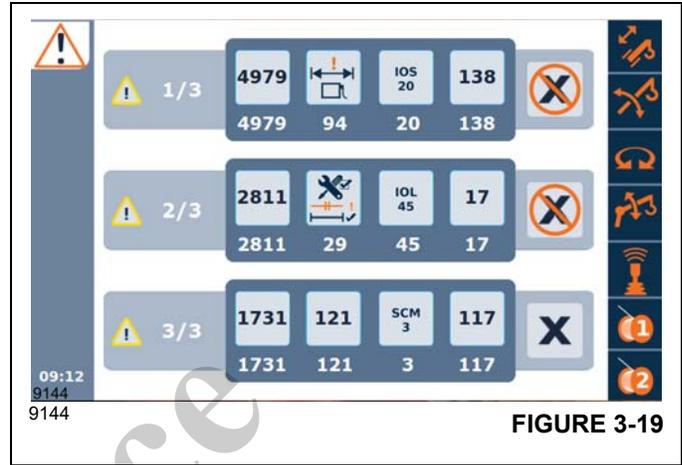
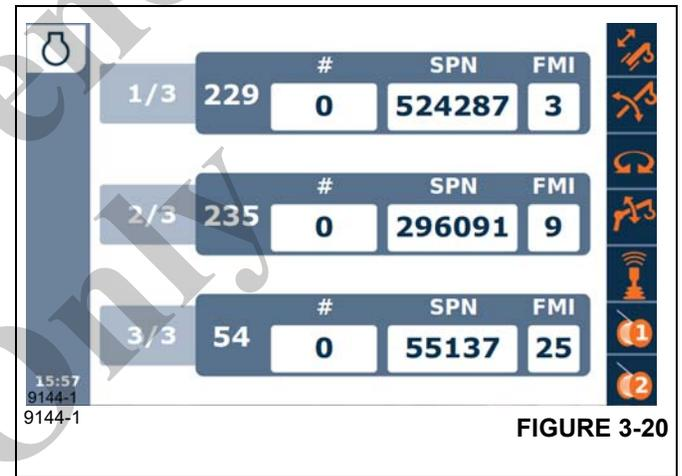

FIGURE 3-19
FIGURE 3-20
1. Open the fault list screen (Figure 3-19) or the engine faults screen (Figure 3-20) and highlight the fault you're interested in getting more information about.